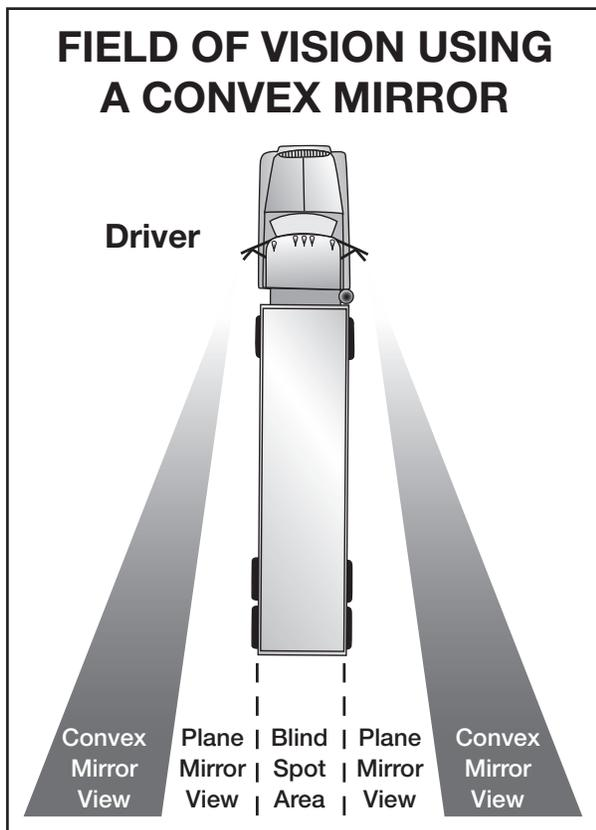

Figure 2.7
- Many large vehicles have curved (convex, "fisheye," "spot," "bug-eye") mirrors that show a wider area than flat mirrors. This is often helpful. But everything appears smaller in a convex mirror than it would if you were looking at it directly. Things also seem farther away than they really are. It's important to realize this and to allow for it. Figure 2.7 shows the field of vision using a convex mirror.